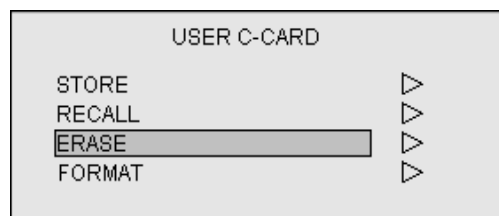

Figure 6.74 USER C-CARD MENU
- (1) Press the MENU key to display the Main menu.
- (2) Move the Joystick up or down to highlight USER C-CARD and press the Joystick to the right to enter its menu. (Figure 6.74)